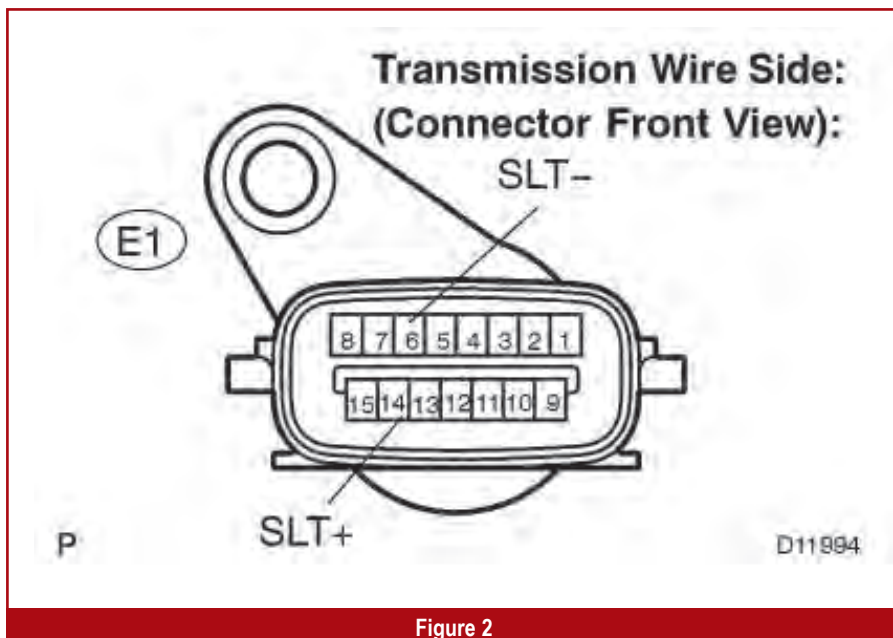

Figure 2
- Disconnect the electrical connector from the transmission (figure 2).